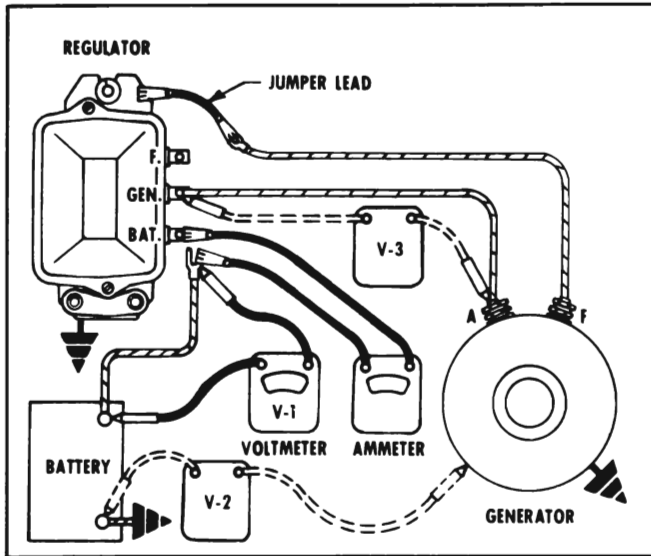

Figure 10-11—Testing Charging Circuit Voltage Drop
1. Make sure that all accessories are turned off. Also make sure that ammeter is in place and that field lead is grounded. See Figure 10-11.
3. Measure voltage drop at V-1, V-2, and V-3. Shut engine off immediately after taking readings. Readings V-1 and V-3 should not exceed 3 volt each. Reading V-2 should not exceed .1 volt. See Figure 10-11.